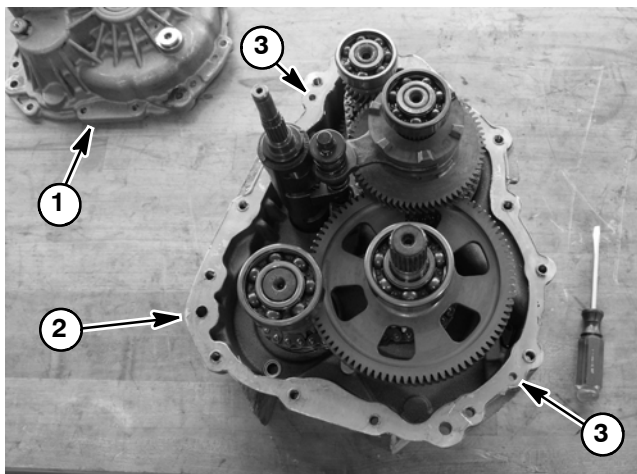

Figure 59
8. Remove flange head screws that secure transmission gear cases. Carefully separate and remove rear gear case taking care to not damage sealing surfaces of the gear cases (Fig. 59).